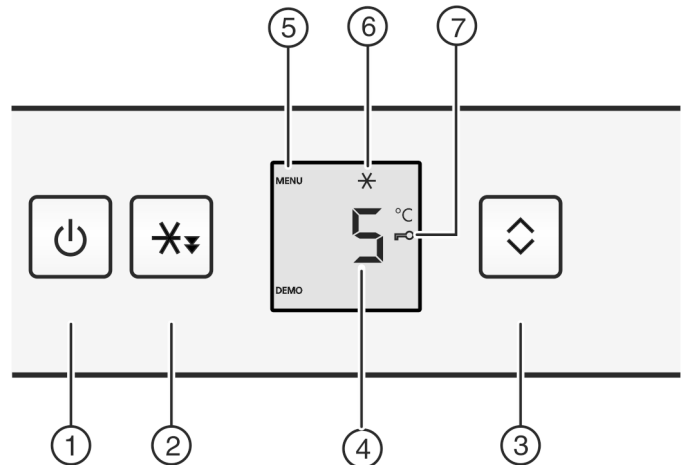

Fig. 2
- ▶ Press the On/Off button Fig. 2 (1).
- ▶ Press the Quick Cool button *Fig. 2 (2)* for around 5 seconds.
- ▷ The Menu symbol is shown on the display, *Fig. 2 (5)*.
- ▶ Confirm by briefly pressing the Quick Cool button *Fig. 2 (2)*.
- ▷ The child lock symbol, *Fig. 2 (7)*, lights up on the display.
- ▶ Briefly press the On/Off button *Fig. 2 (1)*.
- ▶ Briefly press the Quick Cool button *Fig. 2 (2)*.
- ▷ The QuickCool *Fig. 2 (6)* symbol lights up on the display.
- ▷ The Quick Cool *Fig. 2 (6)* symbol dims on the display.